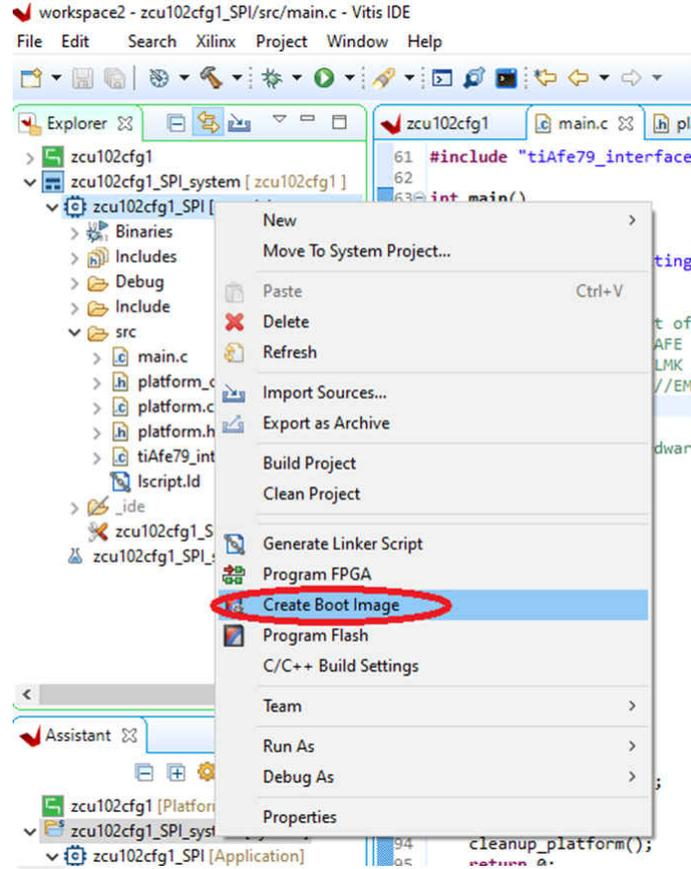

Figure 13-1. Creating Boot Image
1. Right-click the application name to open the drop-down menu and select *Create Boot Image* (see Figure 13-1).